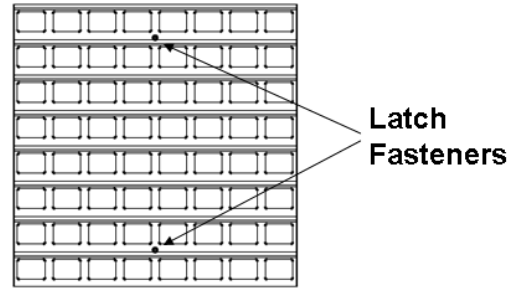

Figure 25: Module, Front View
1. Loosen the latch fasteners on the front face the LED module using a 1/8" hex wrench (or 7/32" nut driver for displays installed prior to 11/29/05). One latch fastener is centered below the top row of pixels and one is centered above the bottom row (Figure 25).